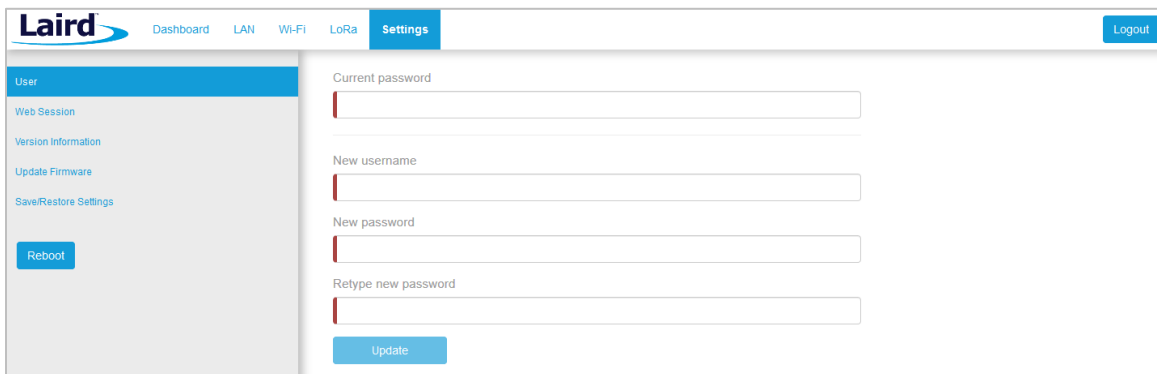

Figure 32: Change user name and password
1. In the main menu, click the **Settings** tab. Then in the left menu, click the **User** tab (Figure 32).